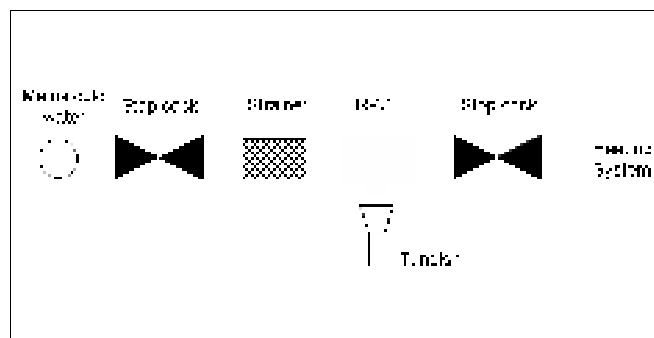

Fig. 51 Requirements Fluid Category 4 systems
- Remove the hot gas baffle by pulling it forward out of the hot gas flues (Fig. 51, [1] – [4]).